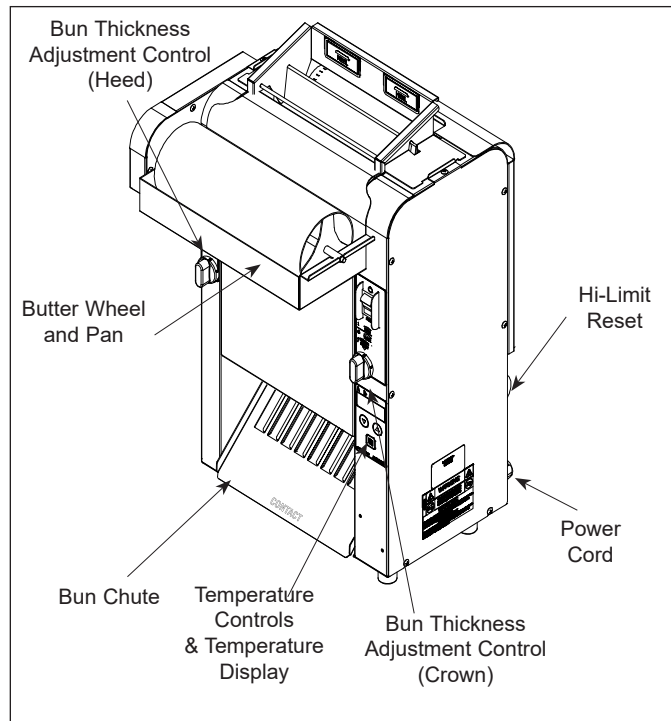

Figure 3. VCTM-2 Toaster
1. Set the Bun Thickness Adjustment Controls (Figure 3).
NOTE: The display (Figure 3) flashes "LO" during warm-up. "USE" appears when the toaster is ready for use.
6. Toasted buns drop onto the Bun Chute (Figure 3).
A Hi-Limit Control turns off power to the unit if it overheats. To reset the control, allow the unit to cool, then locate the Reset Button at the rear of the unit. Remove the black protective cap, press the Reset Button, and reinstall the protective cap (Figure 3).